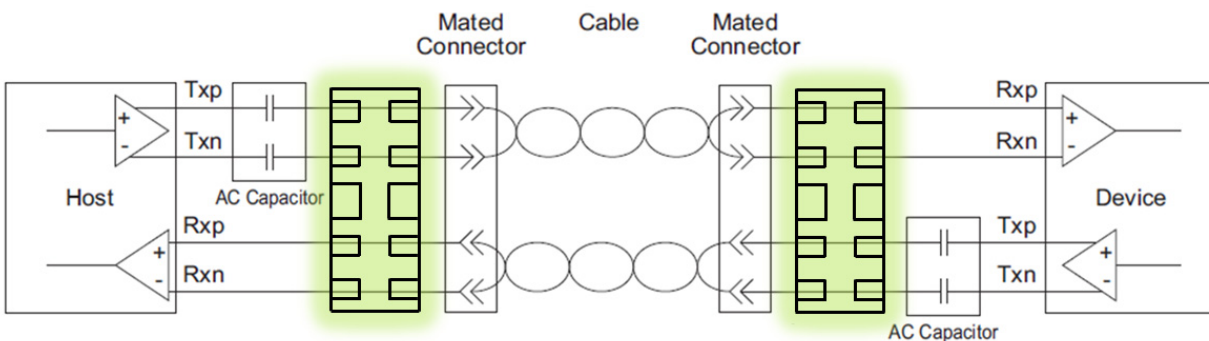

Figure 8. USB 3.0 Connection Diagram
- ◆ In USB 3.0 applications, the ESD protection device should be placed between the AC coupling capacitors and the I/O connector on the TX differential lanes as shown in Figure 8.